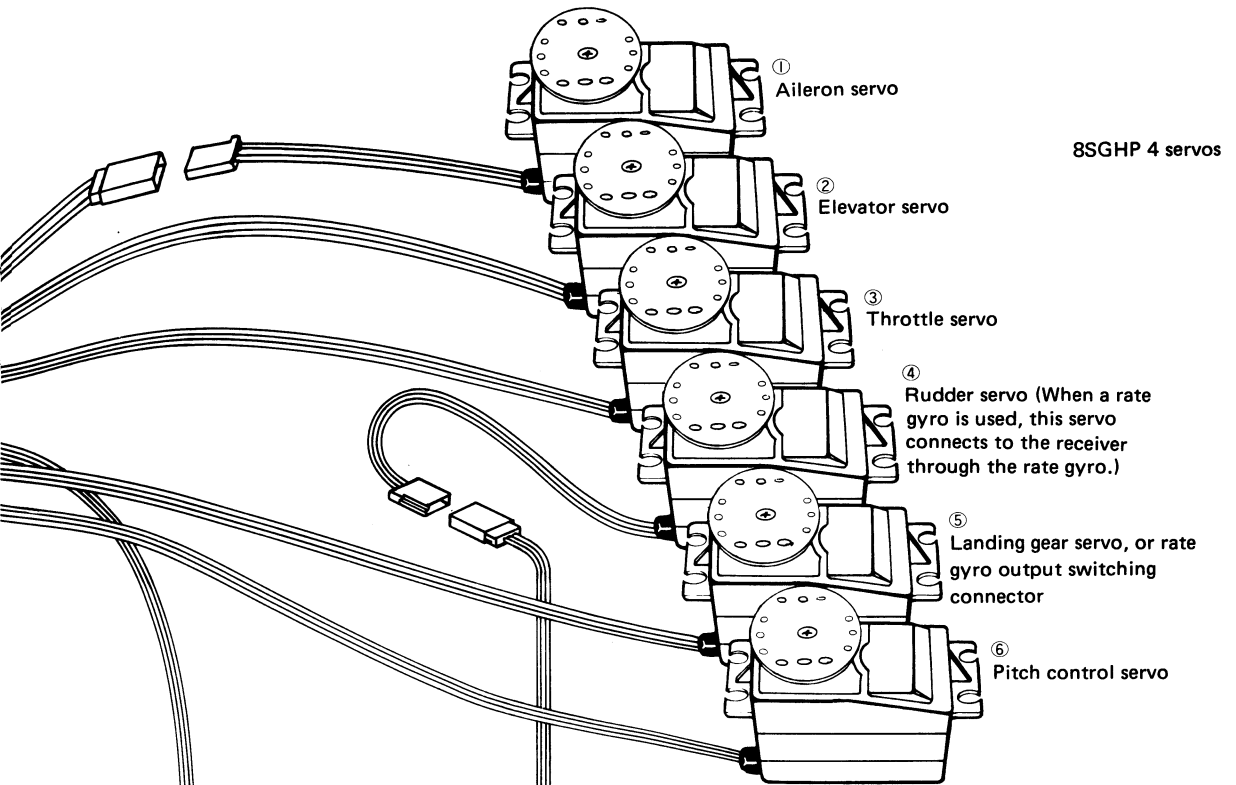

Fig. 55
- Connect the receiver, servo switch, and battery firmly as shown in Fig. 55. Then extend the transmitter and receiver antennas to their full length.